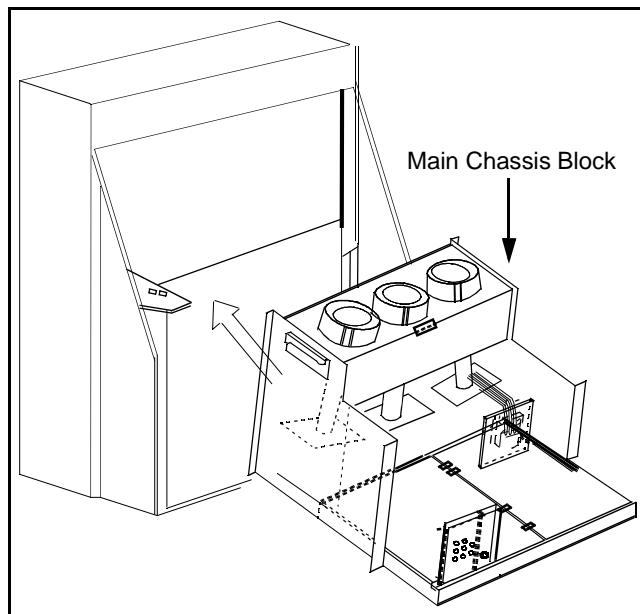

Figure 13. Chassis Removal (Light-Box)
### (Figure 13)
1. Remove the main chassis block from the cabinet (Figure 13).